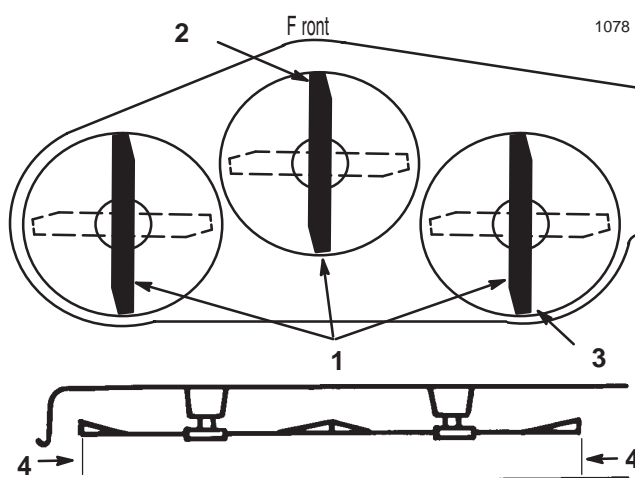

Figure 41
5. Set the height-of-cut at 3 in. (76 mm) and carefully rotate the blades so they are facing front to rear (Fig. 41).
6. Measure between the tip of the front blade (Fig. 41) and the tip of the rear blade to the flat surface. If the front blade tip is not 1/16–5/16 in. (1.6–7.9 mm) lower than the rear blade tip, adjust the front trunion rods.
9. After adjusting both trunion rod yokes evenly, secure the yokes with the hairpin coppers. Check the front-to-rear level again. Continue adjusting the yokes until the front blade tip is 1/16–5/16 in. (1.6–7.9 mm) lower than the rear blade tip (Fig. 41).